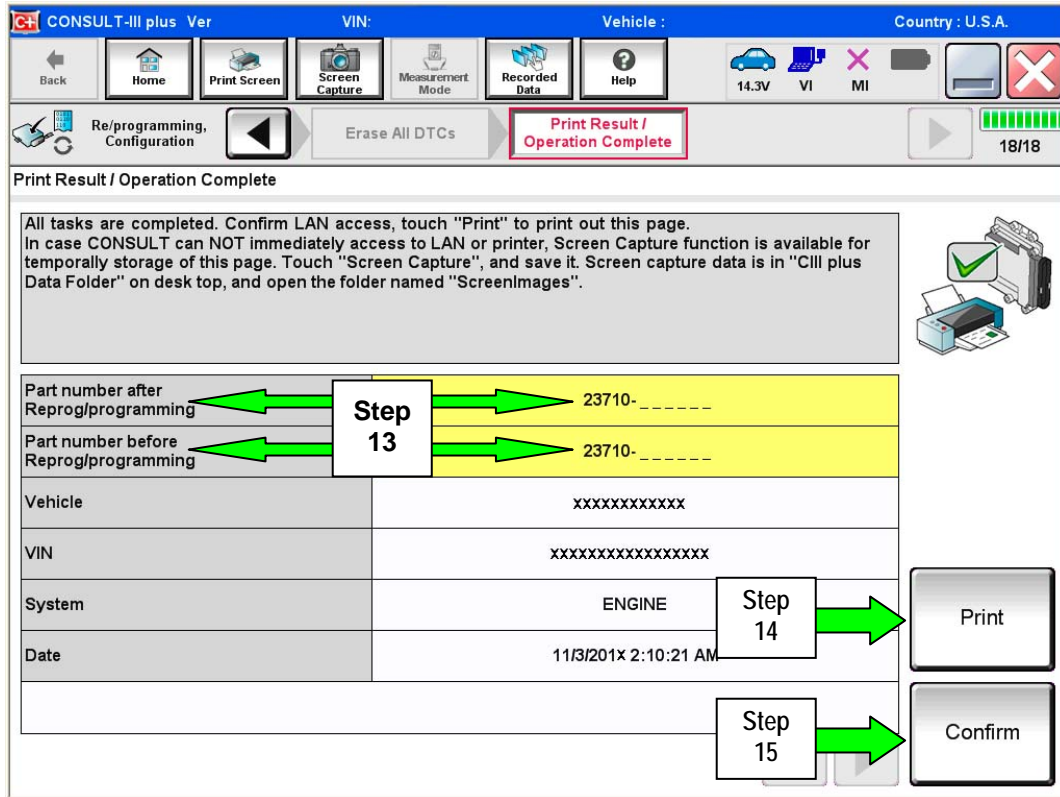

Figure 7
14. Print a copy of this screen (Figure 7) and attach it to the repair order for warranty documentation.